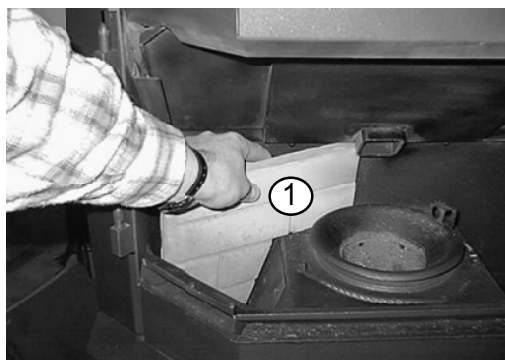

Figure 20.1
2. Slide bottom of left rear brick in first; rotate top edge toward rear of appliance and then rotate outer edge toward rear of appliance, until brick slides into place. **Figure 20.1**.